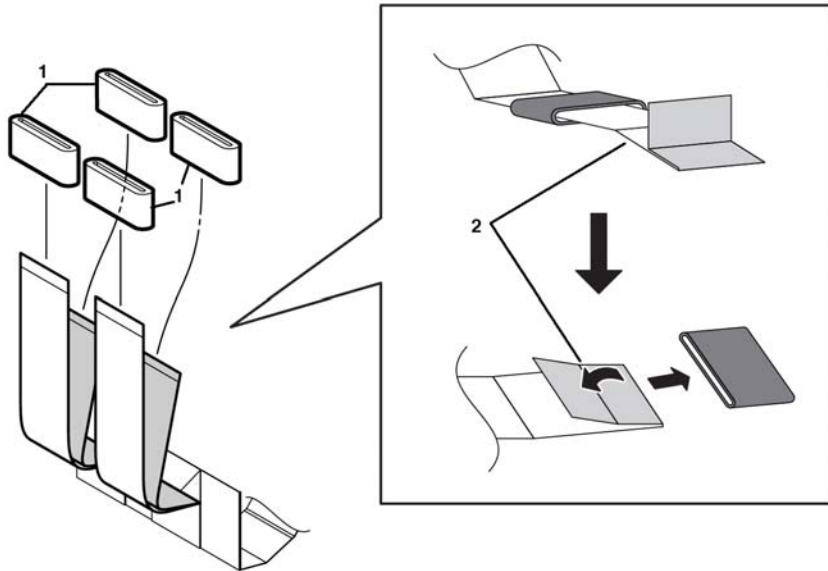

Figure 3 LPH ferrite core removal
7. Remove four LPH ferrite cores (1) by pressing the reinforcing tabs (2) flat against the FFC, Figure 3.